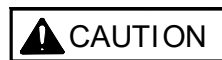

**Fig 4-Power Unit Connection**
- 12) Thread 9/16-18 O-ring elbow (*in hardware box*) into power unit. Attach free end of power unit hose to elbow. See **Fig 4**. **CAUTION** do not damage rubber O-ring.